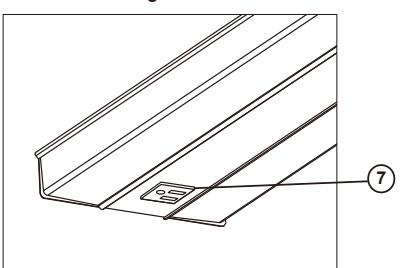

Figure 3
9. For multiple units- fixtures can be inter-connected by plugging next unit's power cord into the previous fixture's convenience outlet. –See Fig. 3